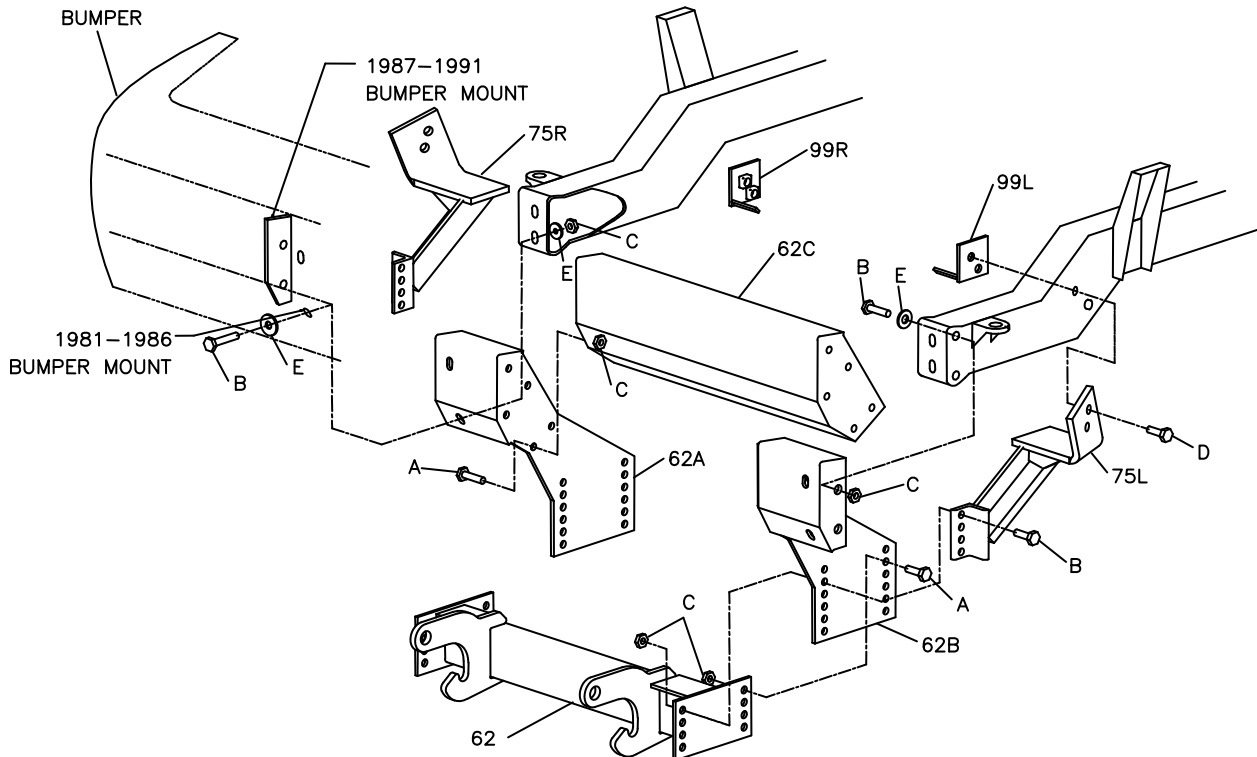

Figure 1
2. Position the PUSH BEAM SUPPORT PLATES (Ref. 62A and 62B, Fig. 1) on the frame horn.
Insert a ½" – 13 x 2" HEX HEAD BOLT with a ½" FLAT WASHER through the lower front hole of the PUSH BEAM SUPPORT PLATE and frame. Install a ½" FLAT WASHER and ½" – 13 x 2" HEX HEAD BOLT, ½" FLAT WASHER, and ½" – 13 HEX HEAD SELF LOCKING NUT, attach the bumper and PUSH BEAM SUPPORT PLATE to the side of the frame as shown in Figure 1.
Using the PUSH BEAM SUPPORT PLATE as a template, drill two 9/16 holes into the side of the frame. With a 1/2" – 13 x 2" HEX HEAD BOLT, 1/2" FLAT WASHES, and 1/2" – 13 HEX HEAD SELF LOCKING NUT, attach the PUSH BEAM SUPPORT PLATE to the side of the frame as shown in Figure 1. Position the bumper over the PUSH BEAM SUPPORT PLATE to the side of the frame as shown in Figure 1. Position the bumper over the PUSH BEAM SUPPORT PLATE and attach to the front of the frame using 1/2" – 13 x 2" HEX HEAD BOLTS, 1/2" FLAT WASHERS and 1/2" – 13 HEX HEAD SELF LOCKING NUTS as shown in Figure 1.
3. Attach the CROSS MEMBER WELDMENT (Ref. 62C, Fig. 1) to the PUSH BEAM SUPPORT PLATES using 1/2" – 13 x 1- 1/2" HEX HEAD BOLTS, and 1/2" – 13 HEX HEAD SELF LOCKING NUTS.
4. Position the PUSH BEAM (Ref. 62, Fig. 1) between the PUSH BEAM SUPPORT PLATES. Use 1/2" – 13 x 1- 1/2" HEX HEAD BOLTS for the rear attachment of the PUSH BEAM and PUSH BEAM SUPPORT PLATES.
5. Position the ANGLE BRACKET (RH) (Ref. 75R, Fig. 1) between the frame rail and PUSH BEAM SUPPORT PLATE. Bolt the ANGLE BRACKET to the front of the PUSH BEAM and the PUSH BEAM SUPPORT PLATE. Bolt in place using 1/2" – 13 x 2" HEX HEAD BOLTS and SELF LOCKING NUTS.
6. Push the frame end of the ANGLE BRACKET tightly against the frame, then drill two 11/16 holes into the frame using the ANGLE BRACKET as a template to locate the holes. Bolt the ANGLE BRACKET to the frame using 5/8" – 11 x 2" HEX HEAD BOLTS, and NUT PLATE (Ref. 99R, 99L, Fig. 1) provided.